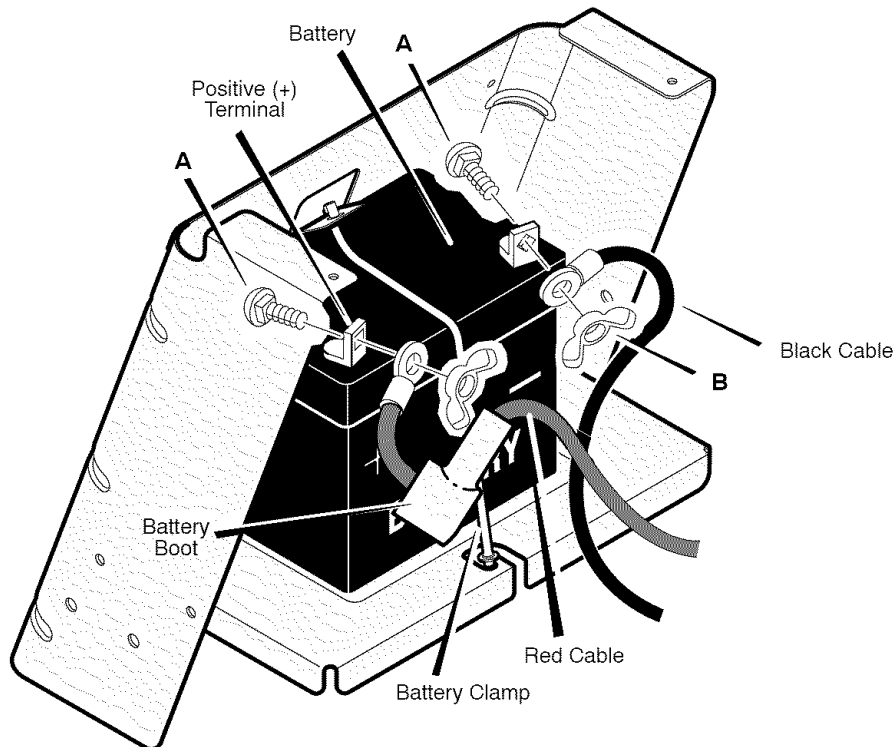

Figure 15
1. Disconnect the **black cable** from the **negative (-) terminal** (Figure 15).